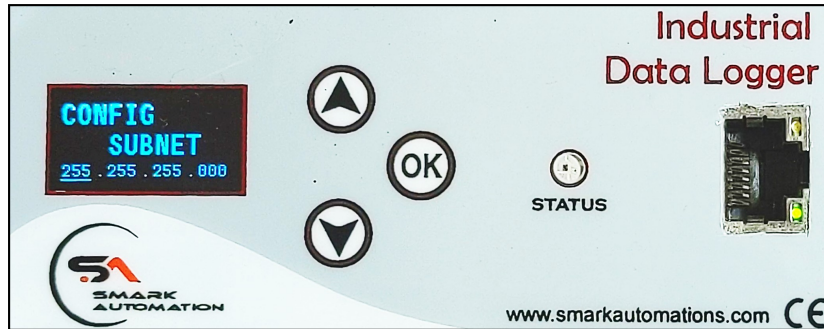

Figure 24: Configuring Subnet
2. **Enter Subnet:** Once the IP address is set, user will be prompted to enter the Subnet, as shown in Fig 24. Follow the same procedure for Configure the IP address to configure the Subnet.